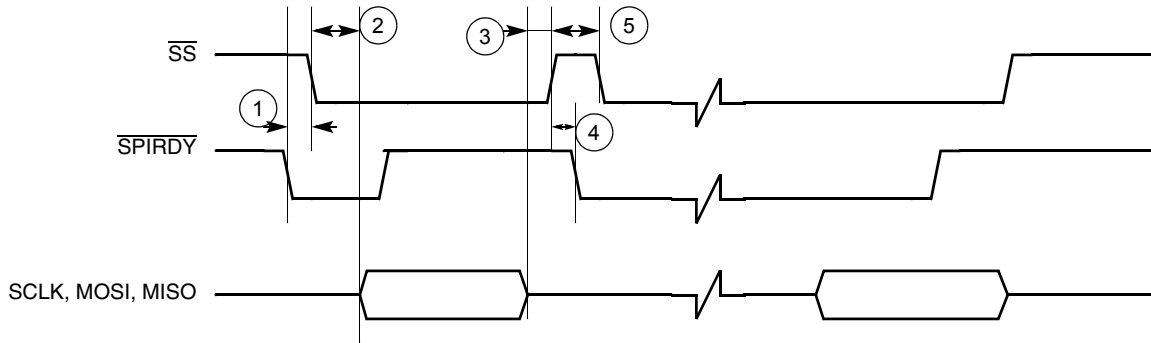
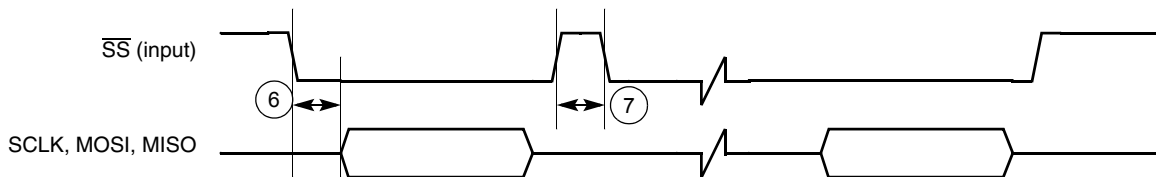

Figure 39. Master SPI Timing Diagram Using $\overline{\text{SPI_RDY}}$ Edge Trigger
Figure 43. Slave SPI Timing Diagram FIFO Advanced by $\overline{\text{SS}}$ Rising Edge
To use the internal transmit (TX) and receive (RX) data FIFOs when the SPI 1 module is configured as a master, two control signals are used for data transfer rate control: the \overline{SS} signal (output) and the $\overline{SPI_RDY}$ signal (input). The SPI1 Sample Period Control Register (PERIODREG1) and the SPI2 Sample Period Control Register (PERIODREG2) can also be programmed to a fixed data transfer rate for either SPI 1 or SPI 2. When the SPI 1 module is configured as a slave, the user can configure the SPI1 Control Register (CONTROLREG1) to match the external SPI master’s timing. In this configuration, \overline{SS} becomes an input signal, and is used to latch data into or load data out to the internal data shift registers, as well as to increment the data FIFO. Figure 39 through Figure 43 show the timing relationship of the master SPI using different triggering mechanisms.
Table 24. Timing Parameter Table for Figure 39 through Figure 43